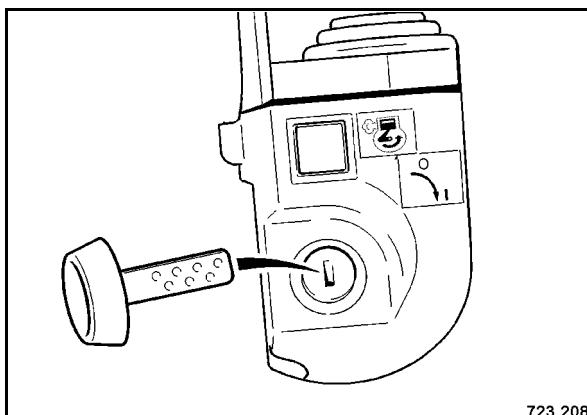

Fig. 54
- Pull off the ignition key (Fig. 54) and store it in a safe place.